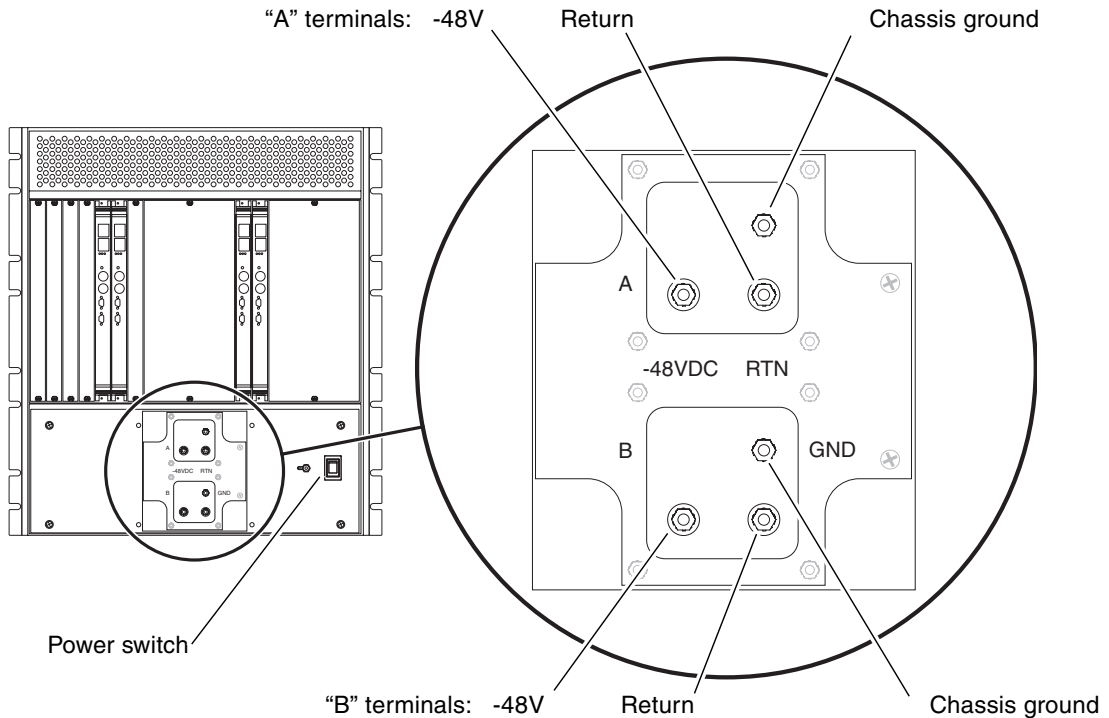

FIGURE 5-1 Netra CT 820 Server (Rear)
2. Locate the power switch at the rear of the server and press it to the On (I) position (FIGURE 5-1).
2. Locate the power switch at the rear of the Netra CT 820 server and press it to the Off (O) position (FIGURE 5-1).
3. If you want to completely power off the Netra CT 820 server, remove the service panel cover from the DC terminal block and disconnect the DC supply terminals from the terminal block (FIGURE 5-1).